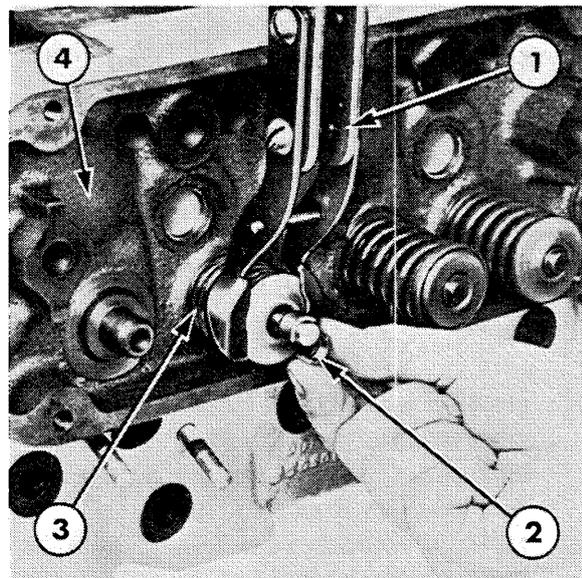
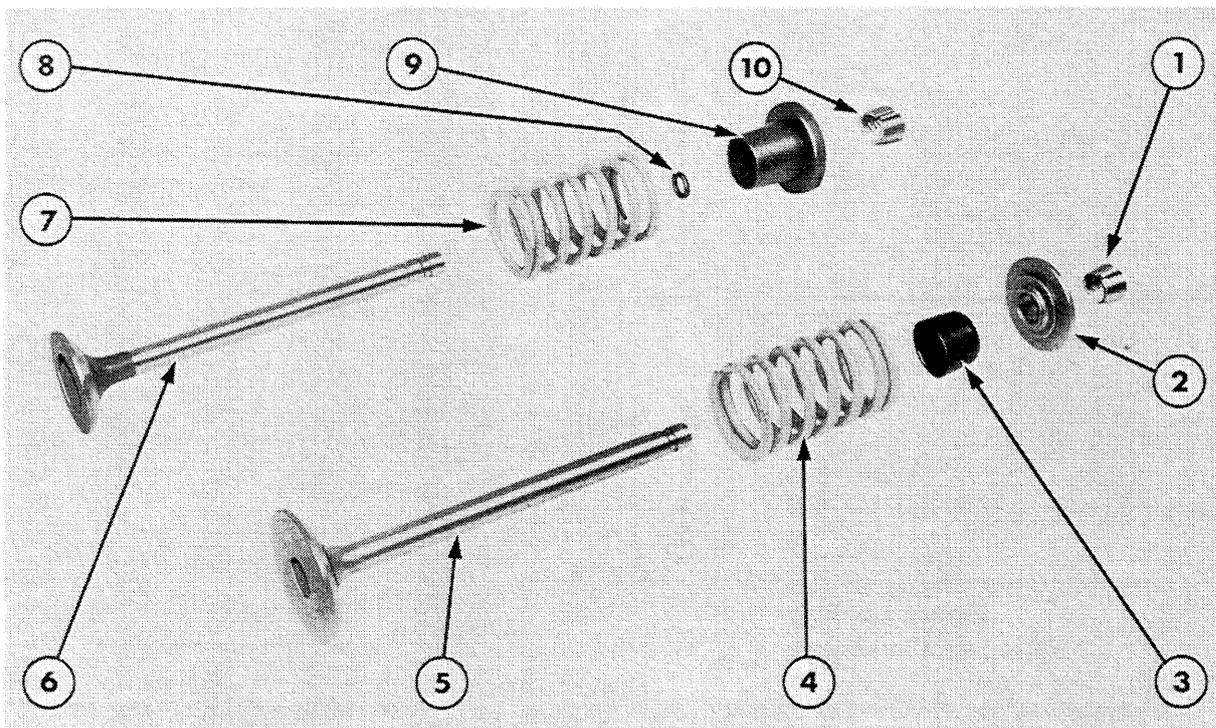

Figure 8
Figure 9
3. Using a valve spring compressor, Figure 8, remove the retainer locks, spring retainers/rotators, springs and seals from each valve, Figure 9.